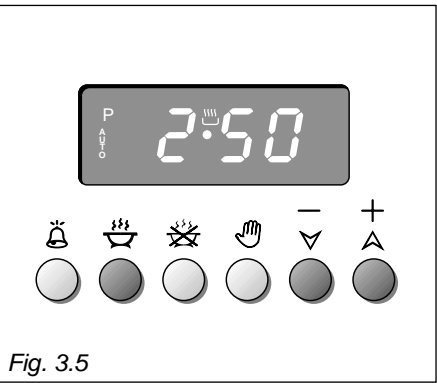

Fig. 3.5
- 1. Set the length of the cooking period by pushing the ☺ button and the ▲ (+) button to increase, or ▼ (-) to decrease if you have passed the desired time (fig. 3.5). The **AUTO** and the 🍷 symbol will illuminate.